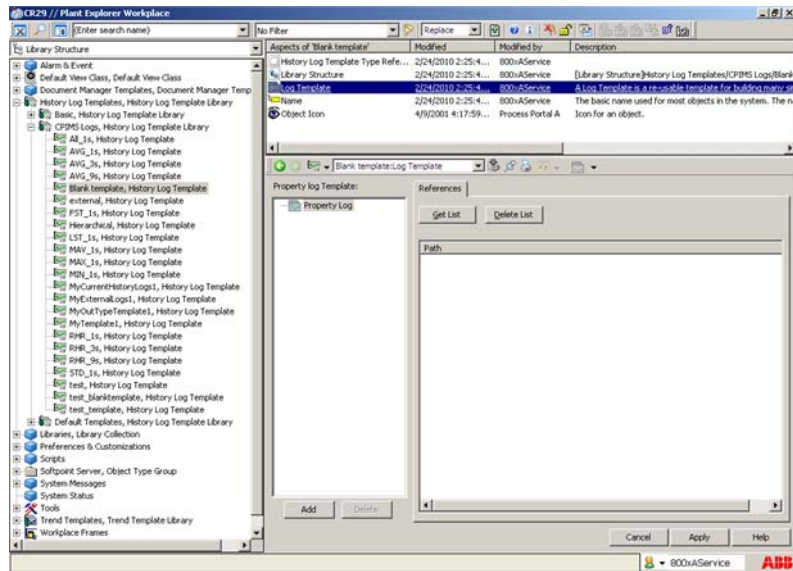

Figure 197. Log Template
6. Double-click the **Log Template** aspect in the aspect display area. The **Log Template** window appears as shown in Figure 197.